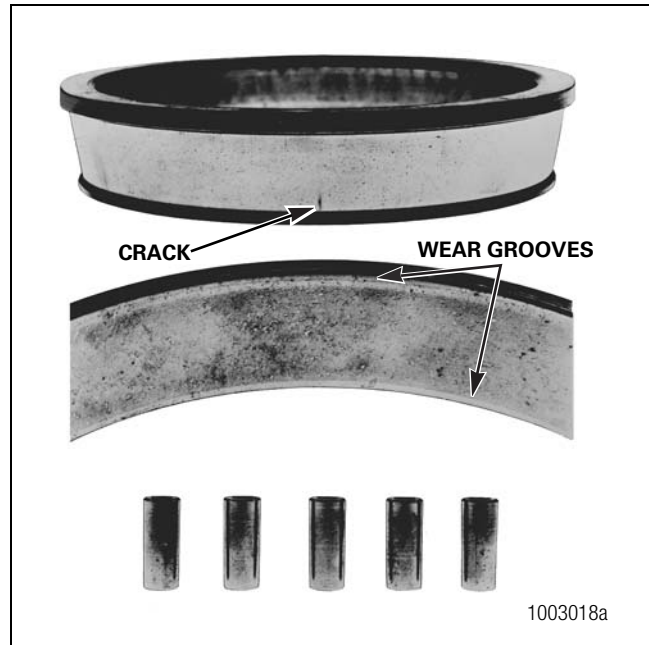

Figure 3.25
- Deep cracks or breaks appear in the surfaces of the cup, cone inner race or rollers. Figure 3.25.